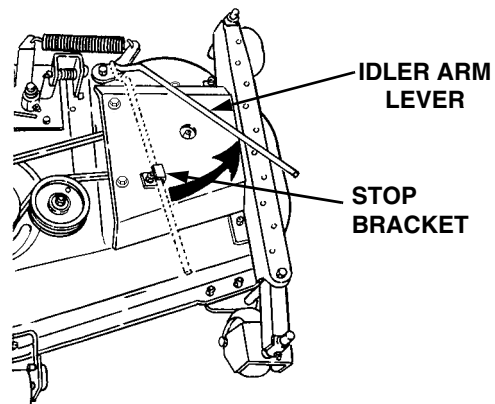

Figure 41
3. Lower the mower deck by moving the implement lift handle to its lowest setting. Disengage the deck idler arm lever from its stop bracket and release the spring tension by rotating the lever out and rearward (See Figure 41).